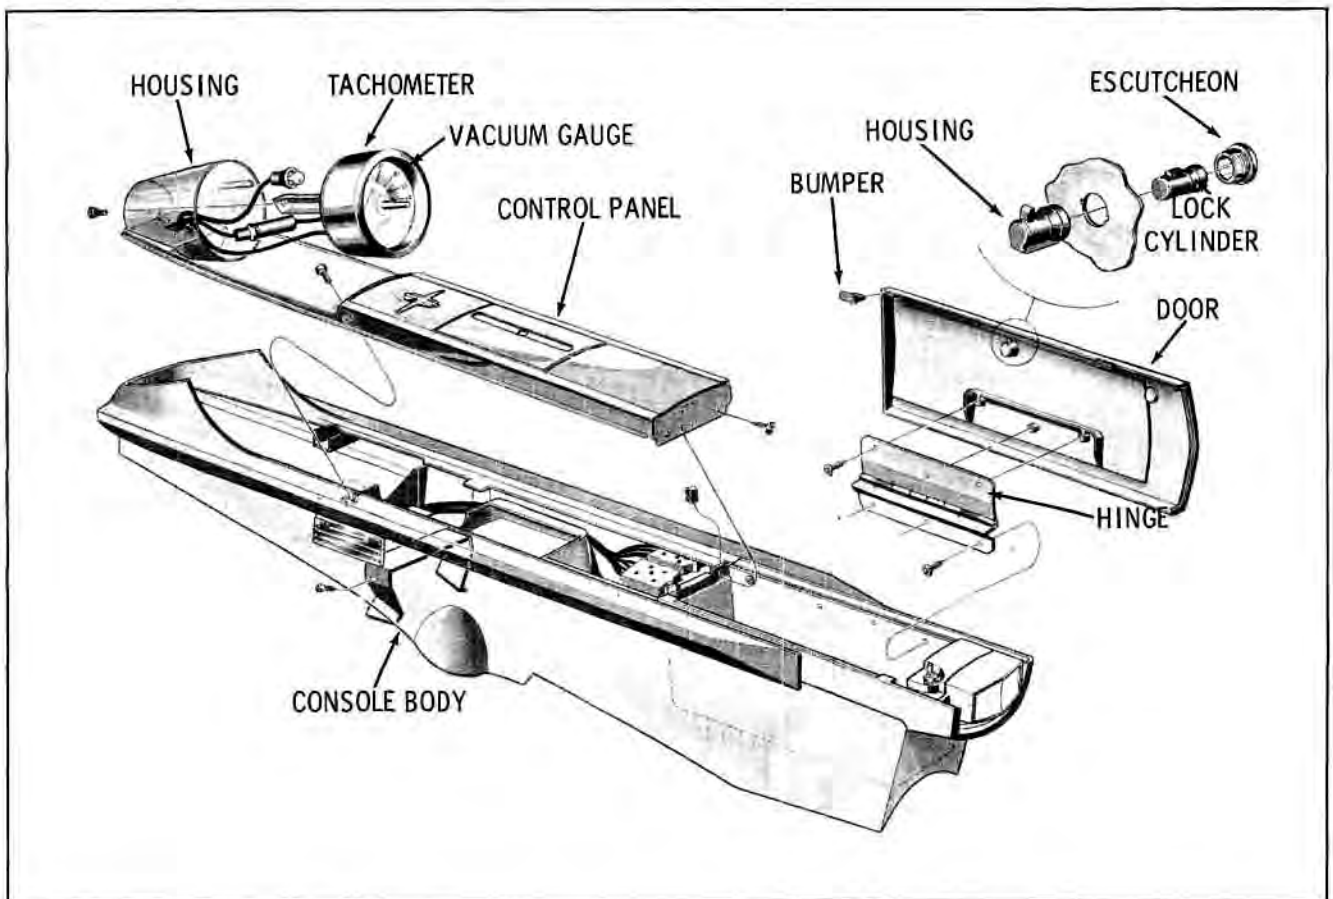

Fig. 12-14 Console Components
The console is assembled in three sections: console body, safety pad (LH) and safety pad (RH). The tachometer or vacuum gauge can be removed by removing one screw at the rear of tachometer housing. Hydra-Matic indicator components, neutral safety and back-up lamp switch can be serviced after removing the selector handle and control panel. For detailed disassembly and assembly, refer to Figs. 12-14, 12-15, 12-16, 12-17, 12-18, 12-19 and 12-20.